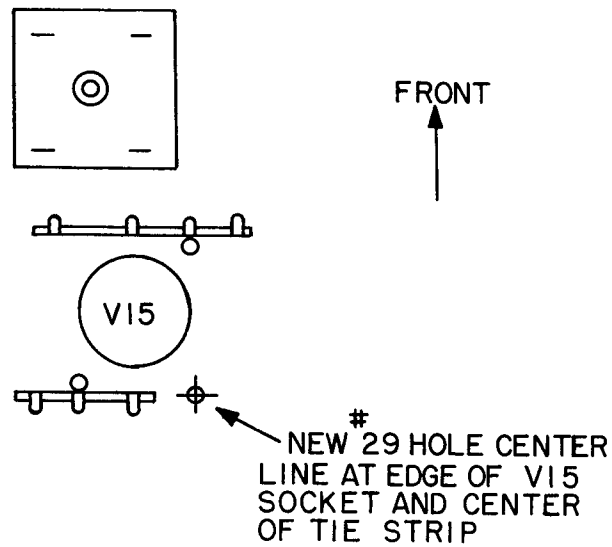

Figure 4. Location of Number 29 Hole for Installation of Insulated Terminal
2. Carefully drill a number 29 hole next to tie strip at rear of XV15 as shown in figure 4. Care should be taken not to damage cable harness.